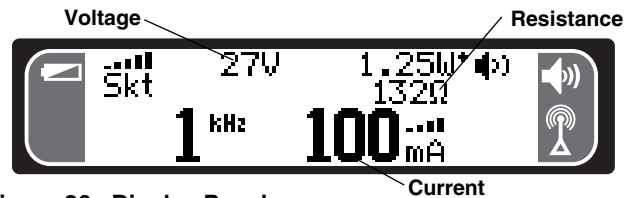

Figure 20 –Display Panel
Look at the resistance (Ω - ohms), the voltage (V) and the current (mA) displayed on the screen (See Figure 20). Display numbers are approximate. Generally the lower the ohms (total resistance) the more efficiently current can be added. Lower total resistance indicates an efficient circuit and requires less voltage to induce a signal in the line.